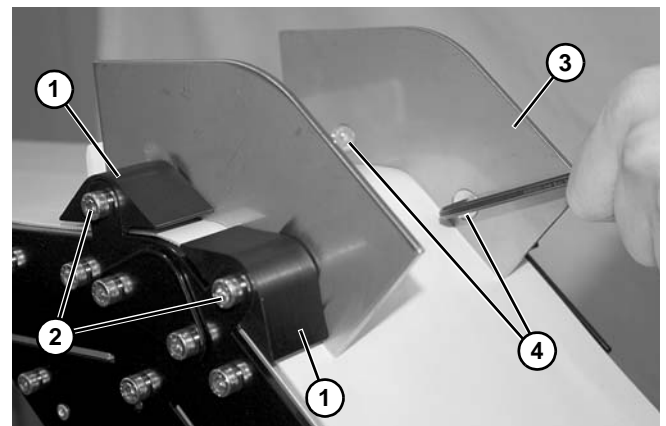

Figure 69
3. Install spacers (**Figure 69, item 1**) on both sides of conveyor with screws (**Figure 69, item 2**).
4. Install guard (**Figure 69, item 3**) on both sides of conveyor with screws (**Figure 69, item 4**).